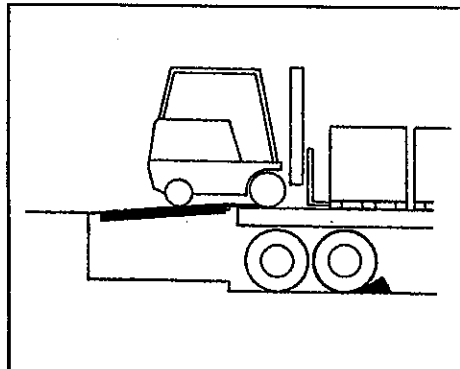

Fig. 35. Lip On Truck
5. Make sure that the dock leveler lip is resting securely on the truck/trailer bed. Make sure that the truck/trailer wheels are chocked. Complete loading/unloading operations. See Figure 35.